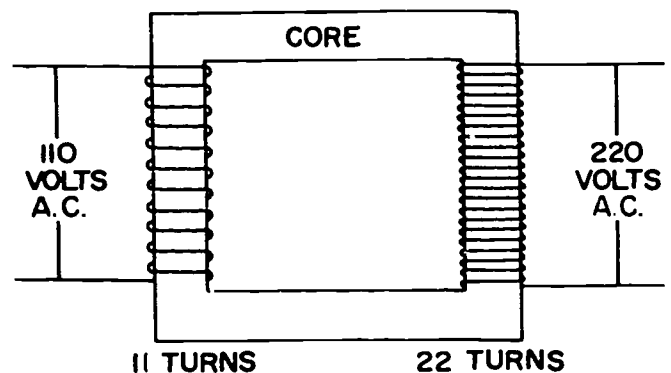

Figure 1-42. Basic transformer.
transformers operate. In actual construction, the iron core of a transformer has two windings (see fig. 1-42): the input, or primary winding, and the output, or secondary winding. If both windings have the same number of turns, the voltage and current induced in the secondary winding are the same as that applied to the primary winding. If the secondary has more turns than the primary, a greater voltage and a smaller amount of current is induced in the secondary than that applied to the primary. If the secondary has fewer turns than the primary, a lesser voltage and a greater amount of current is induced.
Transformer ratio. The ratio between the number of turns in the primary to the number of turns in the secondary determines the voltage ratio of the transformer. Figure 1-42 illustrates the relationship between the turns ratio and the voltage. If the left-hand coil is connected to a 110-volt AC source, it would be the primary winding. The turns ratio would be stated as 1 to 2, the primary number being given first because there are twice as many voltage turns (22) in the secondary as in the primary. The voltage induced in the secondary (220) is twice the voltage applied to the primary. A transformer with a greater secondary voltage is called a step-up transformer. If, in figure 1-42, we applied 220 volts to the 22-turn winding, the output of the secondary (11 turns) would be 110 volts. This would be called a step-down transformer because the secondary voltage would be less than the primary. The ratio of the transformer when connected in this way is stated as 2 to 1.